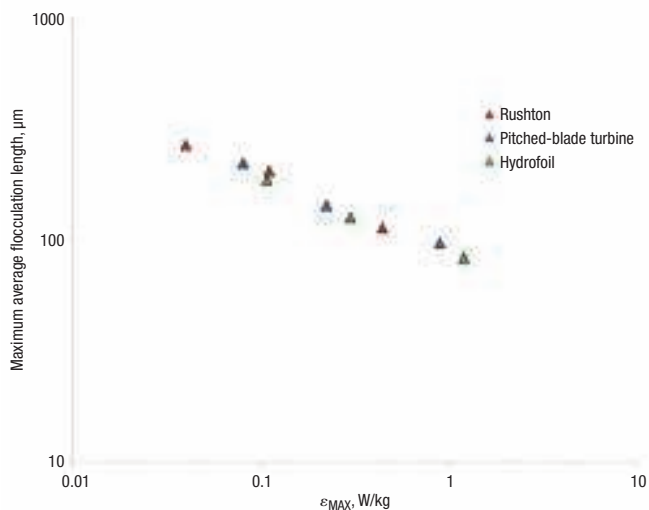

FIGURE 8. This plot shows the maximum average floc length versus maximum kinetic-energy-dissipation rate for hydrofoil, pitched blade and Rushton turbines
drofoil, pitched blade and Rushton turbines at G -values, as defined in Equation (26), of 15, 25 and 50 s^{-1} . The corresponding values of vessel-averaged power input per mass are 2.25×10^{-4} , 6.25×10^{-4} and 2.50×10^{-3} W/kg. Grenville and Spicer [16] have re-analyzed these data and the floc length versus the maximum kinetic energy dissipation rate, calculated using Equation (23), is plotted in Figure 8. This approach to the analysis correlates the data and suggests that the concept of a G -value should work for agitator design provided that it is based on the maximum energy-dissipation rate in the trailing vortex — not the vessel averaged power per volume.